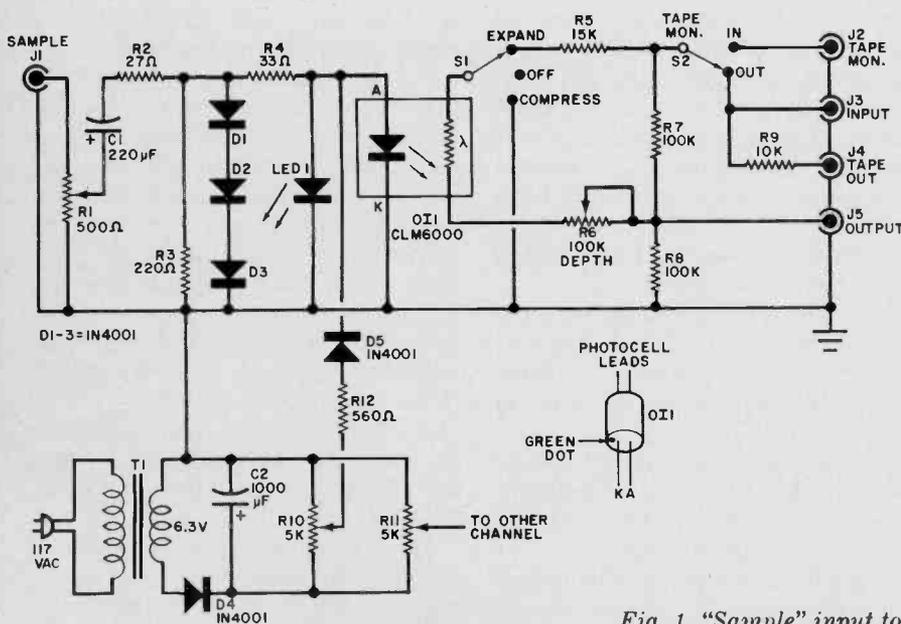

Fig. 1. "Sample" input to compander is same as input to the speaker.
**Circuit Operation.** The heart of the compander circuit (Fig. 1) is an optoisolator (O11), which contains a light emitting diode and a low-distortion photocell in a light-tight plastic enclosure. This unit has much faster response time than devices using an incandescent lamp (often used in compressors). It also introduces less distortion and has the advantage of providing a slight "slow release" action to enhance the expansion effect.